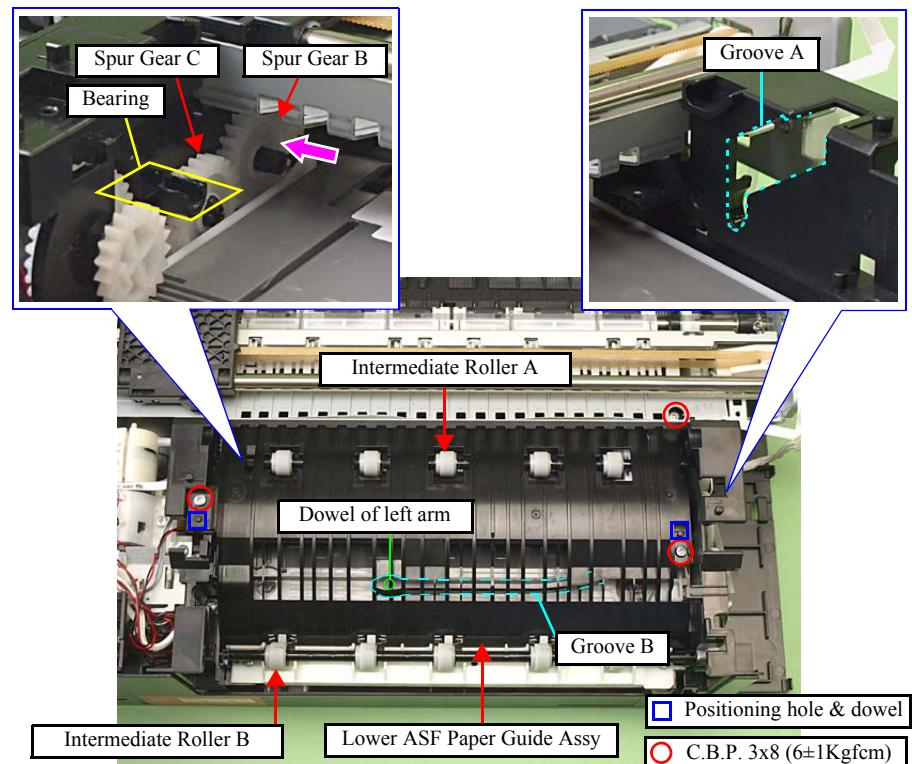
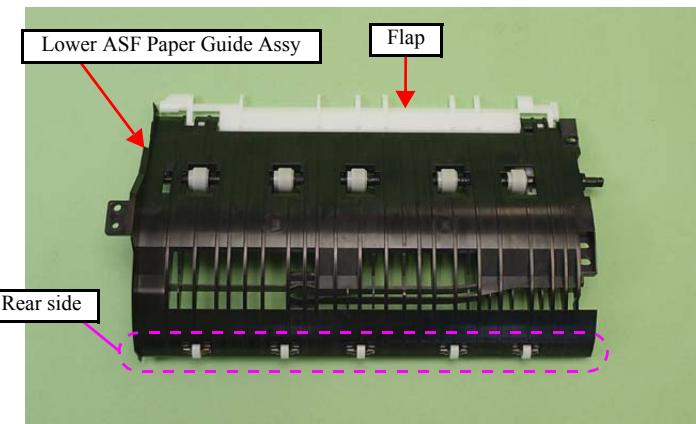

Figure 4-89. Removing the Lower ASF Paper Guide Assy (2)
Figure 4-93. Installing the Lower ASF Paper Guide Assy
- Remove the screws (x3) that secure the Lower ASF Paper Guide Assy. (See Fig. 4-89.)
- Make sure to install the Lower ASF Paper Guide Assy while pressing the Spur Gear B in the direction of the arrow so as to engage it with the Spur Gear C. (See Fig. 4-89.)
- When installing the Lower ASF Paper Guide Assy, the tip of the flap is inserted between the CDR Tray Assy and the Upper Paper Guide. Take care not to damage the flap by getting contact with such parts then. (See Fig. 4-93.)
- Make sure to attach the Intermediate Roller A into the bearing on the Base Frame. (See Fig. 4-89.)
- Attach the rear side of the Lower ASF Paper Guide Assy so as to let its roller and the Intermediate Roller B touch. (See Fig. 4-89, Fig. 4-93.)
- Insert the dowel of the left arm of the CDR Tray Assy into the groove B on the Lower ASF Paper Guide Assy. (See Fig. 4-89.)
- Make sure to align the dowels (x2) of the Base Frame with the positioning holes (x2) of the Lower when reassembling them. (See Fig. 4-89.)